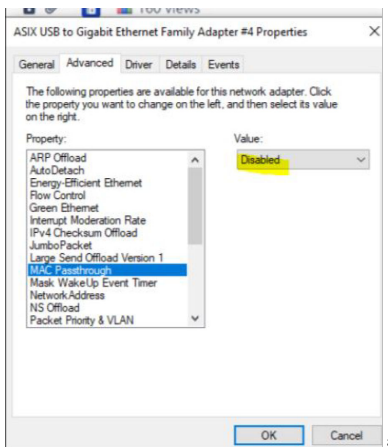

Figure 187. Modify Adapter Property for MAC Passthrough
4. Check the network adapter used and whether it has a property MAC passthrough enabled. This may cause it to pick up a different MAC address and interfere with ability of the GUI to communicate with the switch. Disable this property for the adapter, see Figure 187 and restart the GUI.